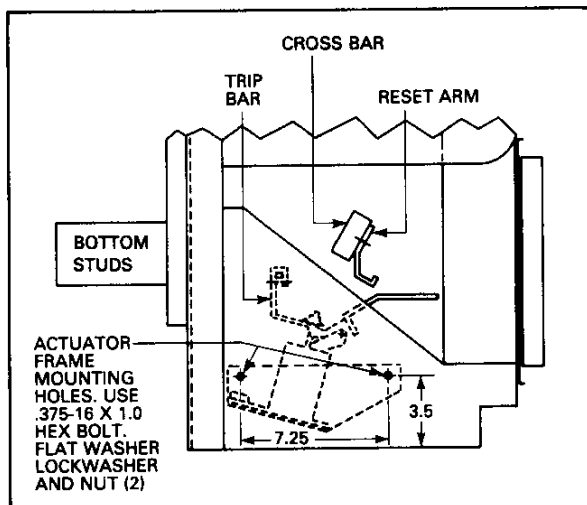

Fig. 9 Left Side View
3. Locate the two (2) .50 holes on the left side of the breaker frame – See Fig. 9. Attach the actuator base to the left side using .375-16 x 1.0 hex bolt, lockwasher, flat washer and nut. The two (2) actuator leads should be located between the left inside frame and the actuator housing.
4. Move the trip paddle assembly so that the paddle is located under the left side of the flange nut (viewing from the front) and secure the trip assembly to the bar. See Fig. 9.
5. Viewing the breaker from the front, remove the .375-16 x 1.5 hex bolt located on the far left side of the cross bar. Place the reset arm between the bolt head and lockwasher (Fig. 9), tighten the bolt being positive that the locking clip is in its previous position.
7. Use a 28 Vdc source close breaker, check tripping and resetting functions of actuator, repeat numerous times for verification. It may be necessary to bend reset arm for positive resetting of actuator, Fig. 9.